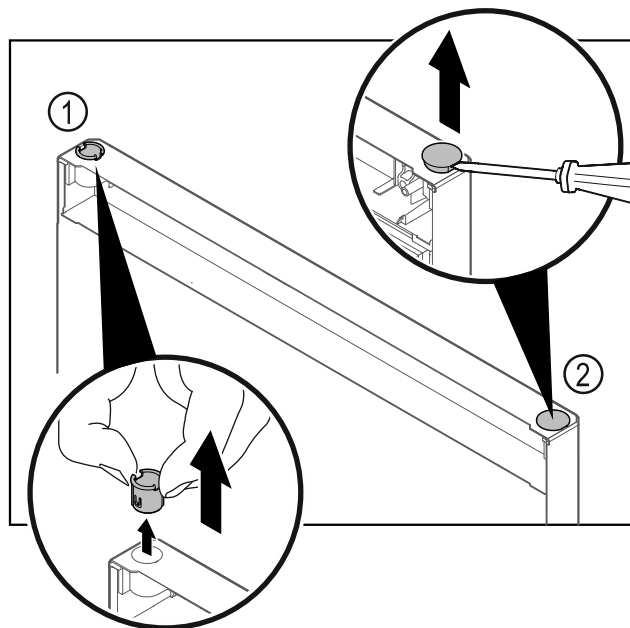

Fig. 22
- Pull out the hinge bushing Fig. 22 (1) with your fingers.
- Carefully lift the cover plug Fig. 22 (2) with a slotted screwdriver and pull it out.